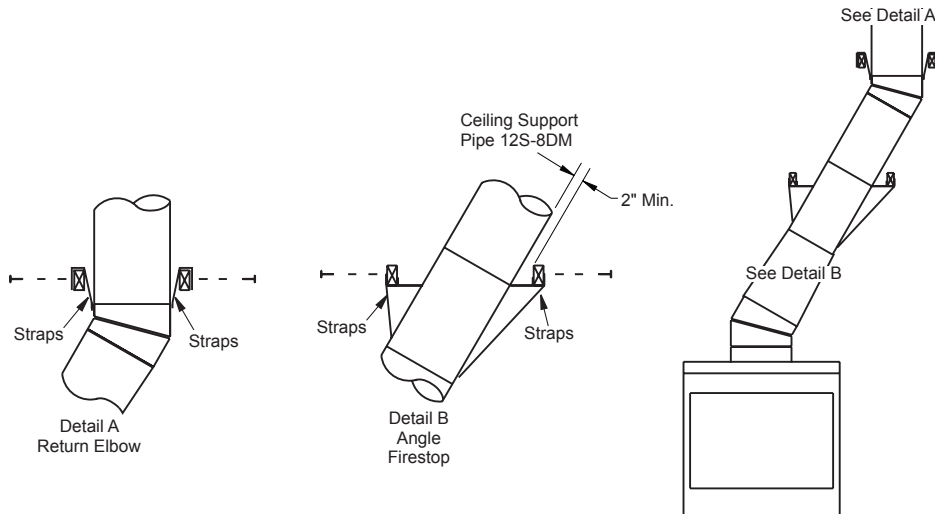

Figure 9 - Ceiling Support Pipe 12S-8DM
2. Chimney weight above offset rests on return elbow. Straps must be securely nailed to rafters or joists (see Figure 9 details A and B, page 9).